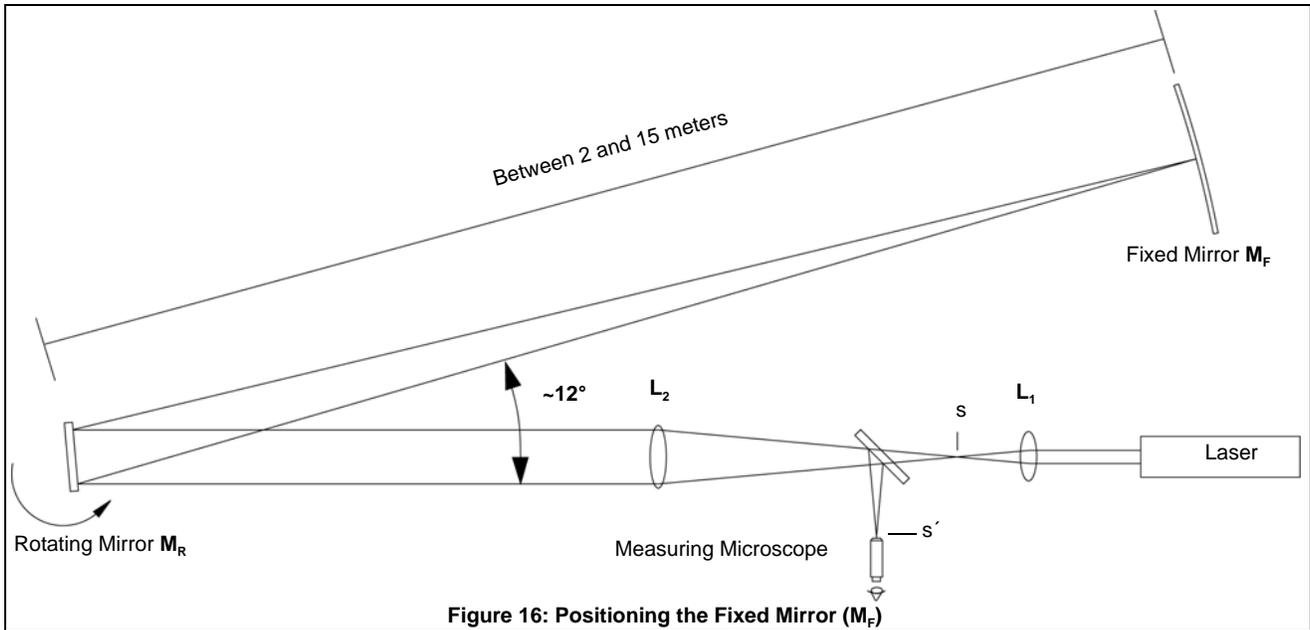

Figure 16: Positioning the Fixed Mirror (M_F)
21. Place the Fixed Mirror (M_F) between 2 and 15 meters from the Rotating Mirror (M_R) as shown in Figure 16. The angle between the axis of the Optics Bench and a line from M_R to M_F should be approximately 12 degrees.